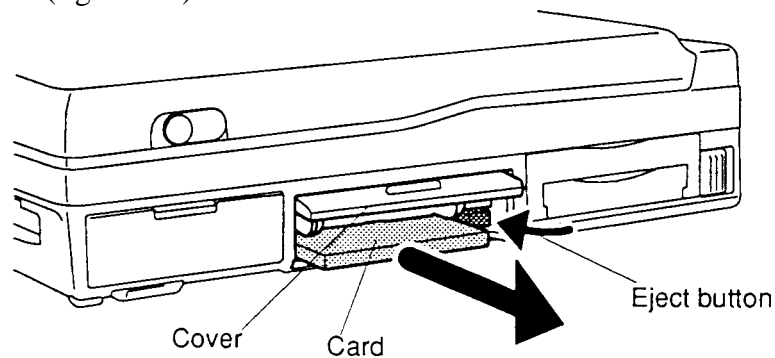

Figure 4-4 Removing the card from the PCMCIA card slot 2
The T4700CS/T4700CT/T4800CT has two PCMCIA slots: one for a card up to 5.0 mm (slot 2) and one for a card up to 16 mm (slot 1). To remove optional PCMCIA cards, follow the steps below and refer to figures 4-4 through 4-6:
4. Push the **eject button** to pop the card slightly out, then grasp the card and pull it completely out (figure 4-4).
To install the optional PCMCIA cards in the T4700CS/T4700CT/T4800CT, follow the steps below and refer to figures 4-4 through 4-6:
1. To install a PCMCIA card into PCMCIA card slot 2, carefully insert the card, making sure the card is right side up and the contact surface is inserted first (figure 4-4).